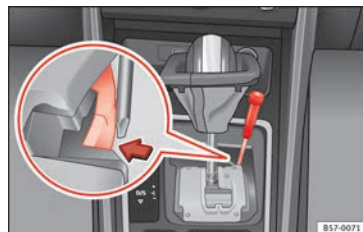

Fig. 54 Selector lever: manual release from position P.
- Using a screwdriver, press and hold the yellow unlocking tab sideways » Fig. 54.